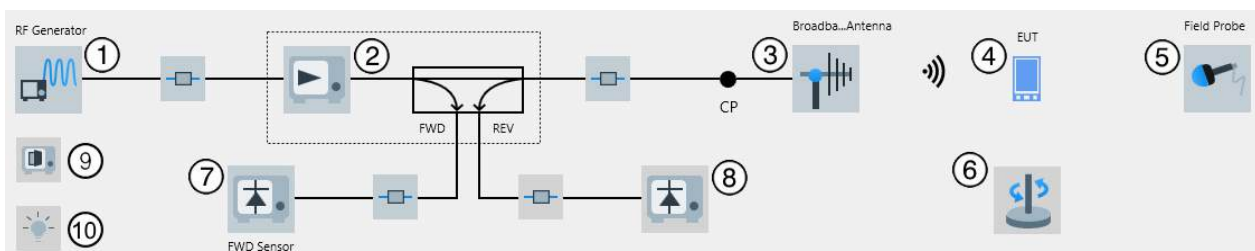

Figure 4-152: EMS hardware setup diagram (radiated) for an Anechoic Chamber in EUT Test View
- The "EUT Test View" (see Figure 4-152)
If you select a receiver instead of the field probe (default for (5) in Figure 4-152), the hardware setup also requires an antenna. The diagram changes as follows: